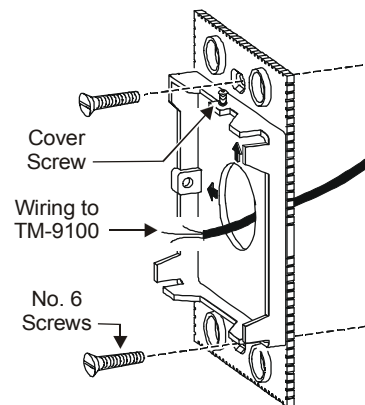

Figure 8: Installing a TM-9100 Using a Wallplate
4. Fasten the wallplate to the wallbox using the No. 6 screws provided. (See Figure 8.)